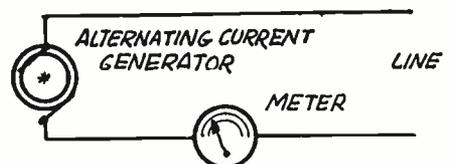

Fig. 5
Fig. 5 contains the amplifier tube (T) with the grid condenser (K1) and
Figure 5 represents a condition which very often occurs on alternating current circuits. An ampere meter placed in the circuit near the generator will show some current flowing even though the circuit is open at the distant end. This is due to the capacity of the conductors absorbing and discharging current.
The retractor may be connected into the antenna in the manner shown in Figure 5, page 6, of the January, 1924, issue of RADIO AGE, where it performs the same duties as outlined for the wave trap connections of that article.